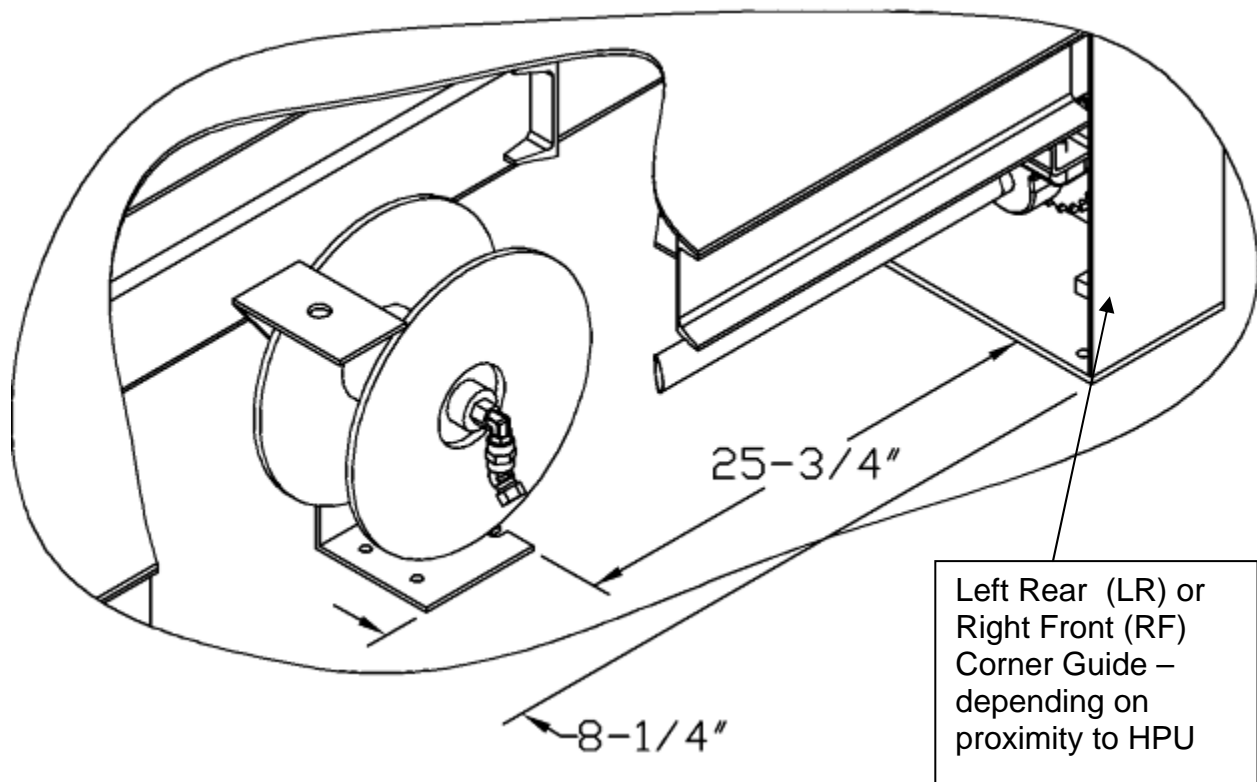

Figure 27 Hose Reel Location
2. Final-locate the hose reel and bolt in the location & orientation shown in **Figure 27** – with the inlet connection facing the hydraulic supply line. This location is critical as it provides the necessary clearance with all structural members beneath the carriage, and allows hosing to be connected without crushing or kinking during lift operation.